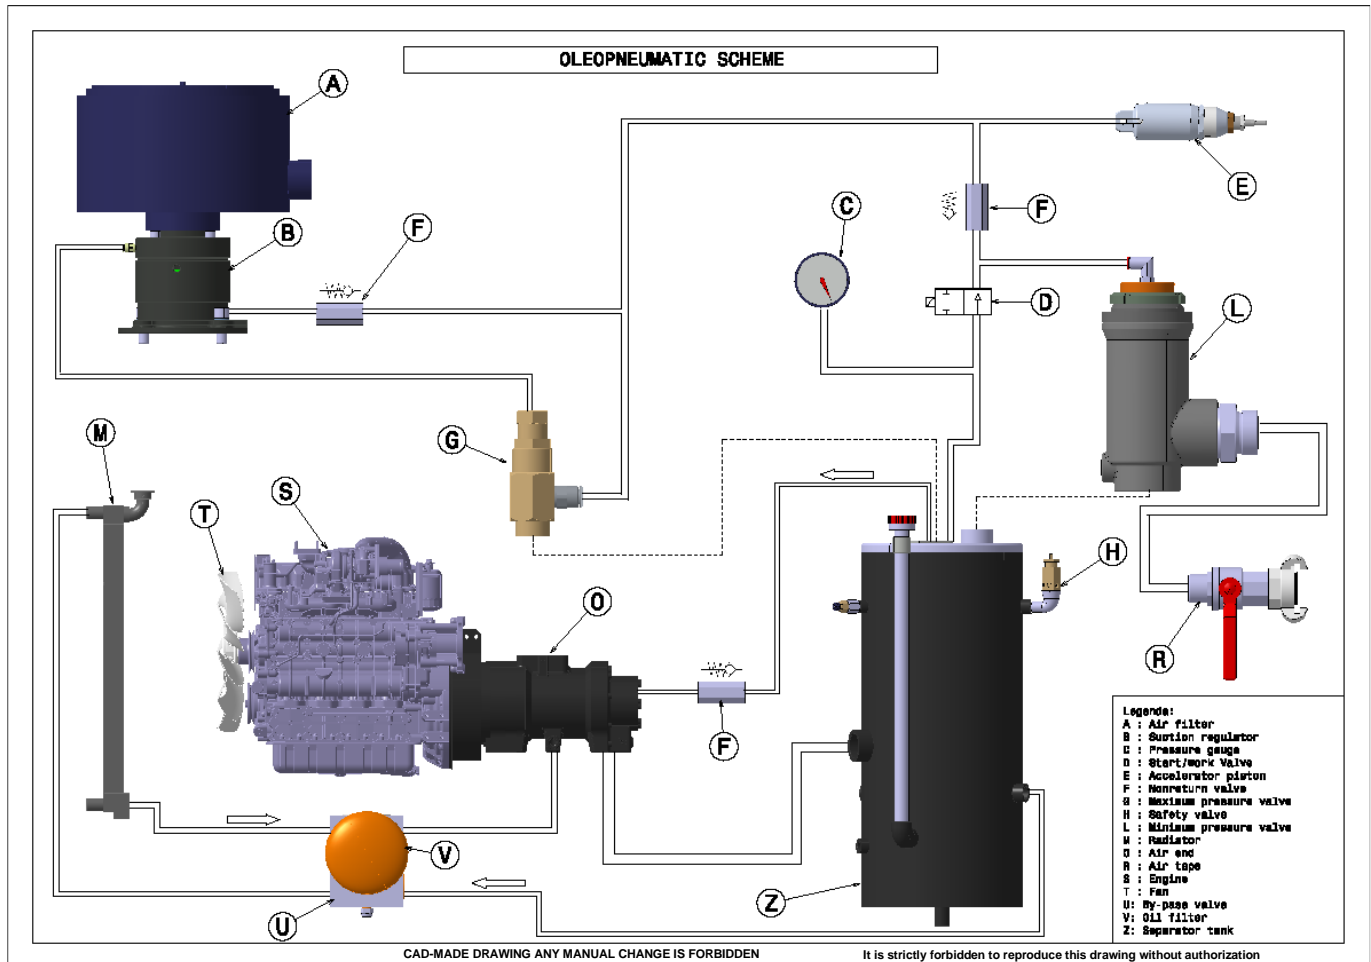

Figure 8.4-1 Hydraulic and pneumatic systems
As shown in fig.8.4-1 the lower part of the oil separator tank (Z) acts as an oil tank, will the filtering part is situated at the top which separates the air from the oil.